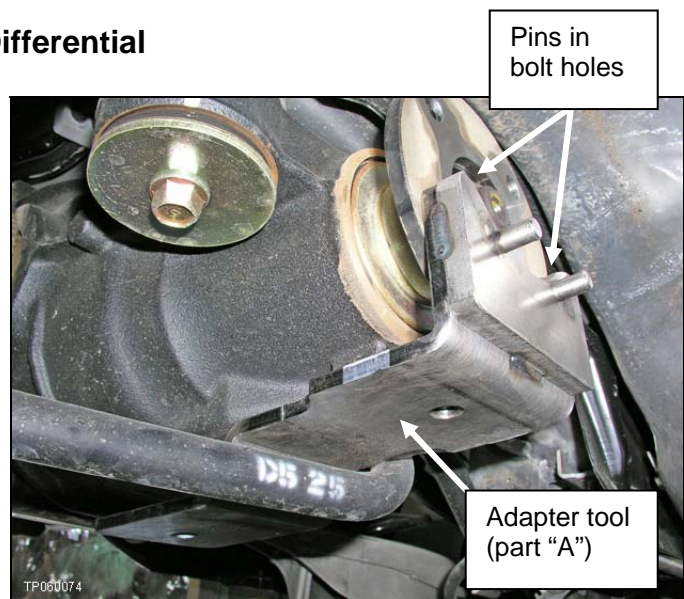

Figure 23
- Install part "A" of the adapter tool onto the pinion flange. Make sure both pins on the tool are inserted into the pinion flange bolt holes (see Figure 23).